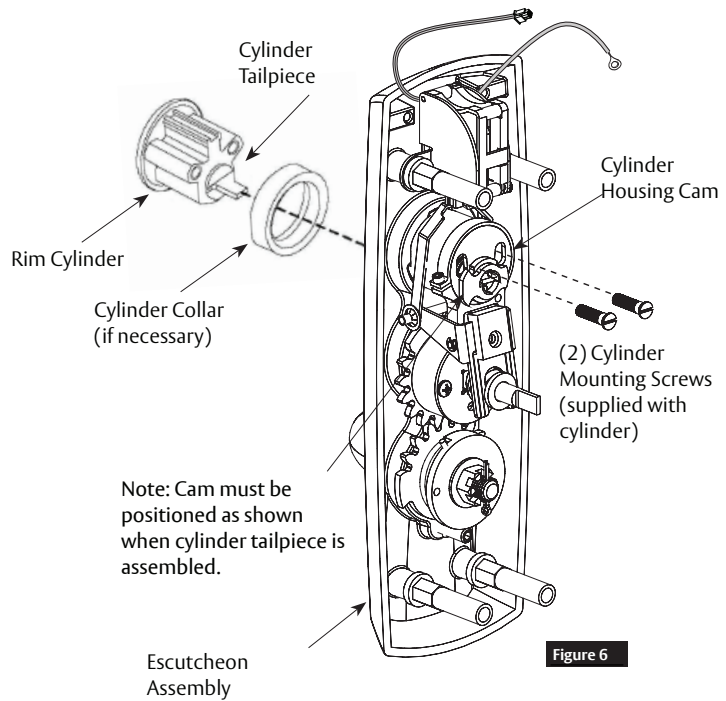

Figure 6
4. Escutcheon Assembly (Figure 6):